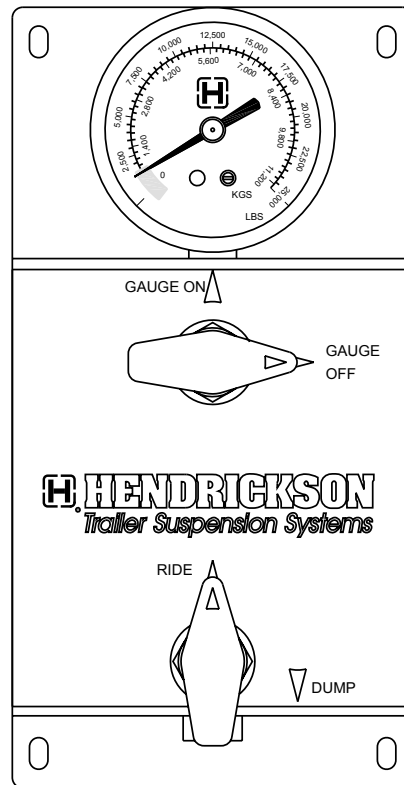

Figure 2. Gauge valve to GAGE OFF position
8. Return the upper ball valve clockwise to the GAGE OFF position (Figure 2).
1. Rotate the lower ball valve counterclockwise to the RIDE position and allow the air system to fully charge (Figure 2).